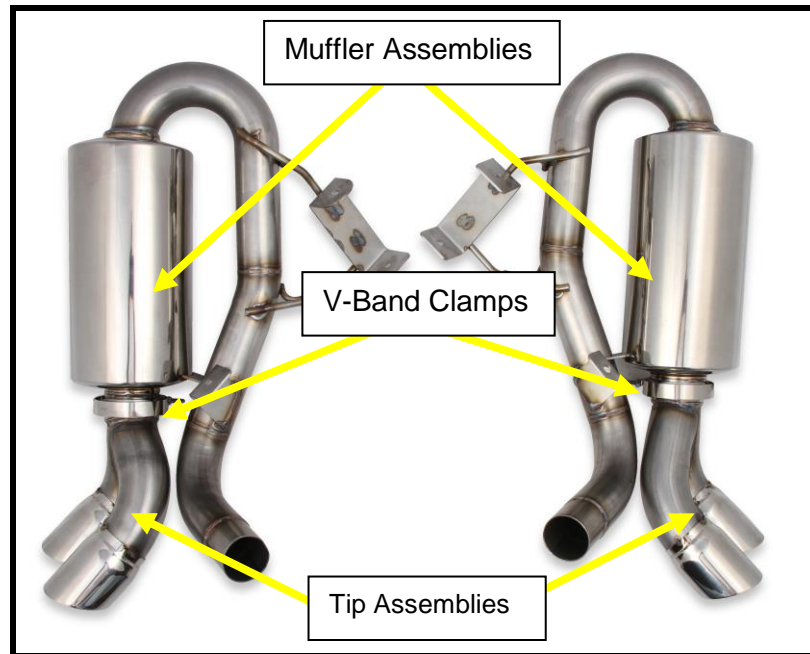

Figure 2
1. Pre-assemble the left and right tip assembly to the muffler assembly, as shown in **Figure 2**. Tighten the V-band clamp to allow for adjustment of the clamps and tips during assembly (**Figure 2**).